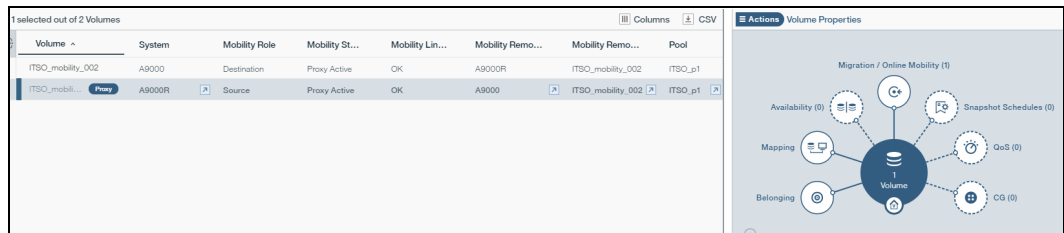

Figure 7-26 Migration/Mobility element for the source volume
1. From the Volumes tab in the Hyper-Scale Manager, select the source volume and choose the Migration / Online Mobility element in the Hub view to the right, as shown in Figure 7-26.